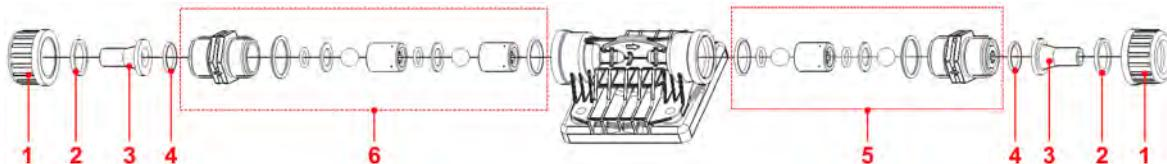

Fig. 6: Suction and discharge line connection
*View Fig. 6 rotated 90 degrees to the right for space reasons.*